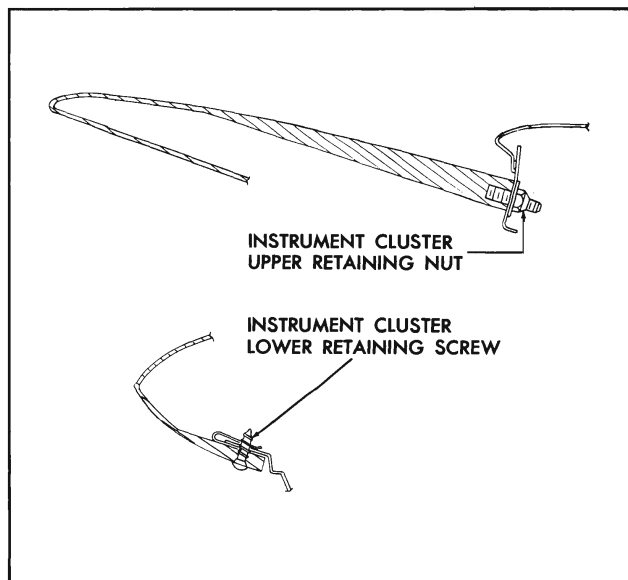

Fig. 11-76 Instrument Panel Cluster Retained
2. Remove upper two $\frac{1}{4}$ " nuts (Fig. 11-76).